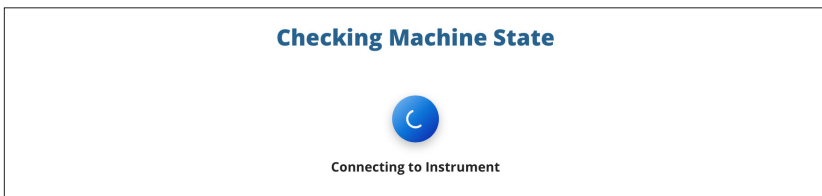
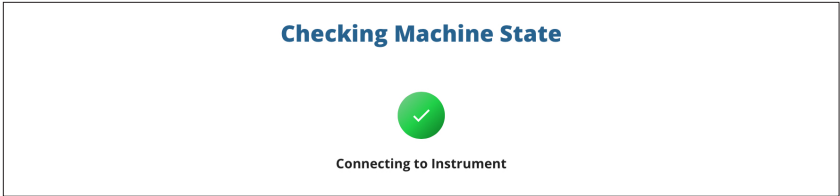
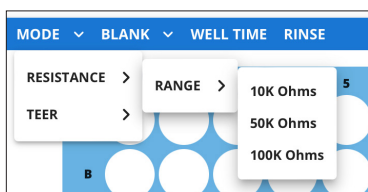

Fig. 13—Initialization screen.
Fig. 14—Ready message displays briefly.
Fig. 27—The mode menu lets you select your options.
4. The Initializing window displays (Fig. 13) showing the progress. The window briefly displays a ready message when the initialization is complete (Fig. 14). Then, the *Main* window appears (Fig. 27).